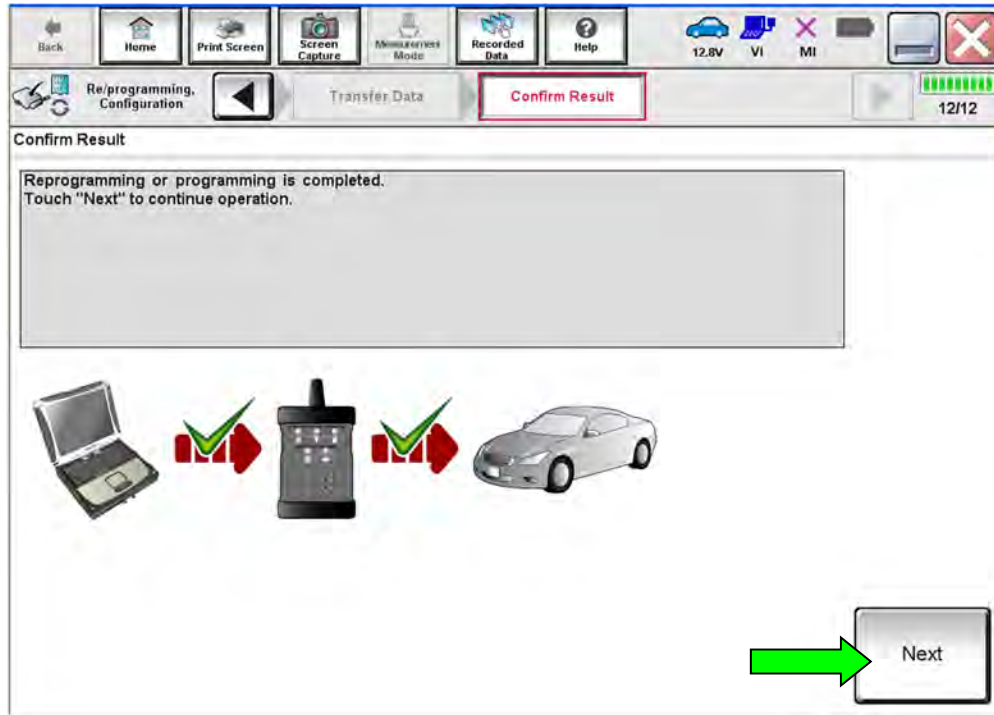

Figure 21
- When the screen in Figure 21 displays, the reprogramming is complete.
- If the screen in Figure 21 does not display (indicating that reprogramming did not complete), refer to **ICC/ADAS 2 Recovery** on the next page.